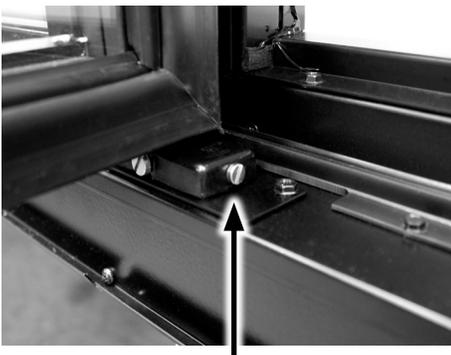

FIGURE 1: Sag Adjustment Screw
1. Open the door to gain access to the sag adjustment screw (**FIGURE 1**) on the bottom of the hinge-side of the door.